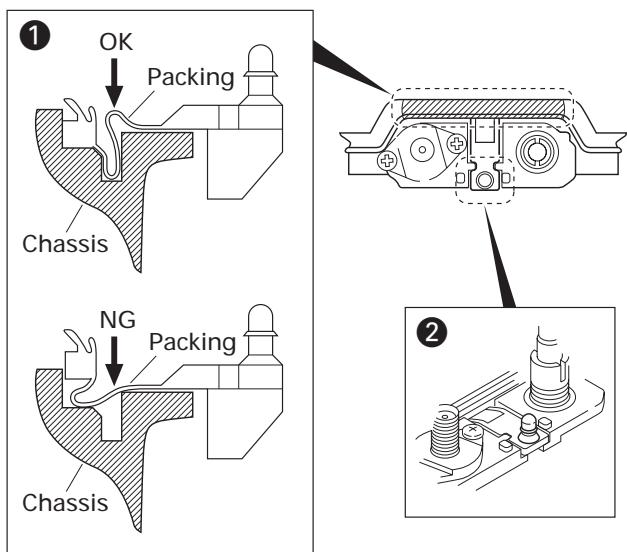

Fig. 5
- (1) To assure waterproofing, install the packing in the chassis groove as shown in Fig. 5. (①)
- (2) Install the packing TX/BUSY lamp section on the chassis. (②)